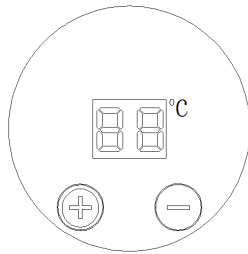

Figure 14
- Press any button to see the set temperature before power off (factory setting is 4 °C) (see figure 14).